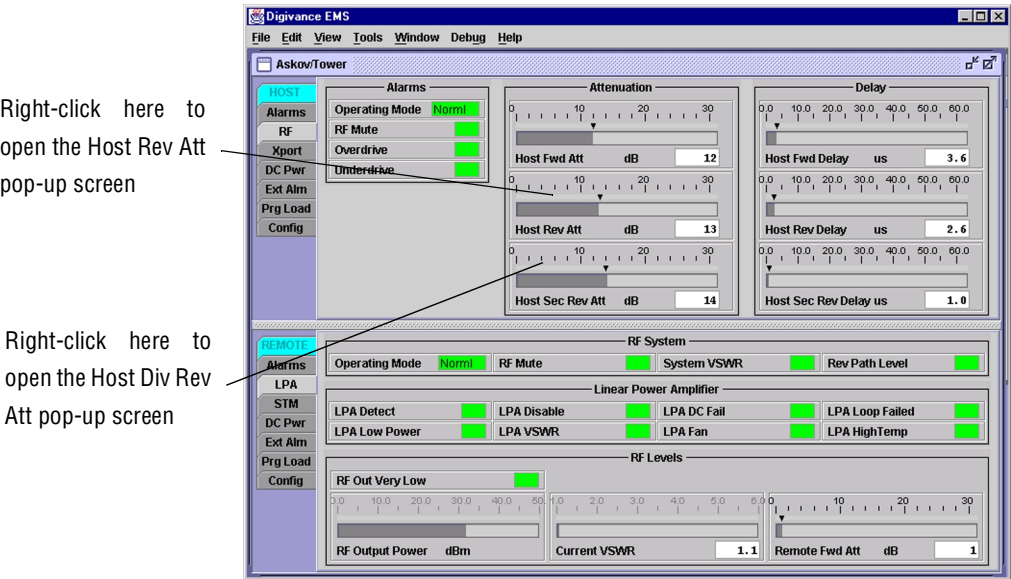
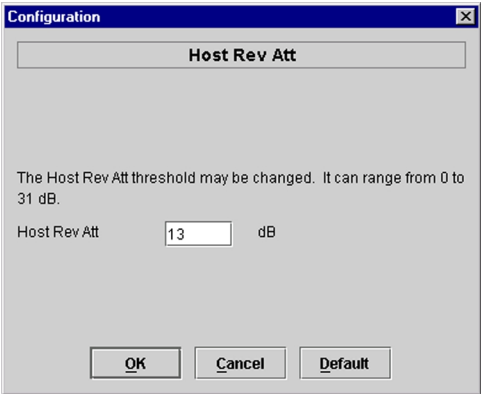

Figure 4-12. HOST RF Display
Figure 4-13. Host Rev Att Pop-Up Screen
5. Right-click on the **Host Rev Att** section of the display (see Figure 4-12). The **Host Rev Att** pop-up screen will open as shown in Figure 4-13.
8. Repeat the process for the diversity reverse path by right-clicking on the **Host Div Rev Att** section (see Figure 4-12) and then entering the required attenuation value in the **Host Div Rev Att** pop-up screen.